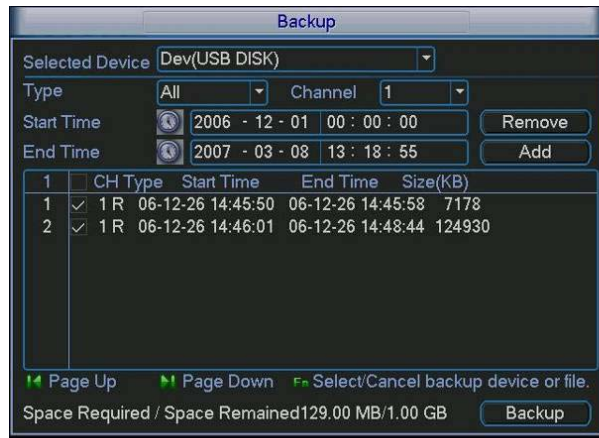
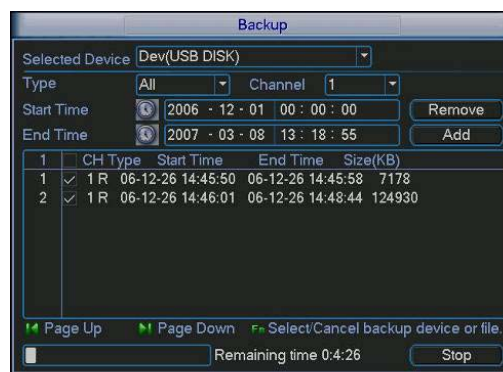

Figure 4-26
Figure 4-27
- Period: Click set button, you can see an interface is shown as in Figure 4-23. Here you can set for business day and non-business day. In Figure 4-26, click set button, you can see an interface is shown as in Figure 4-27. Here you can set your own setup for business day and non-business day.
System automatically calculates the capacity needed and remained. See Figure 4-26.
Click backup button, system begins burning. At the same time, the backup button becomes stop button. You can view the remaining time and process bar at the left bottom. See Figure 4-27.